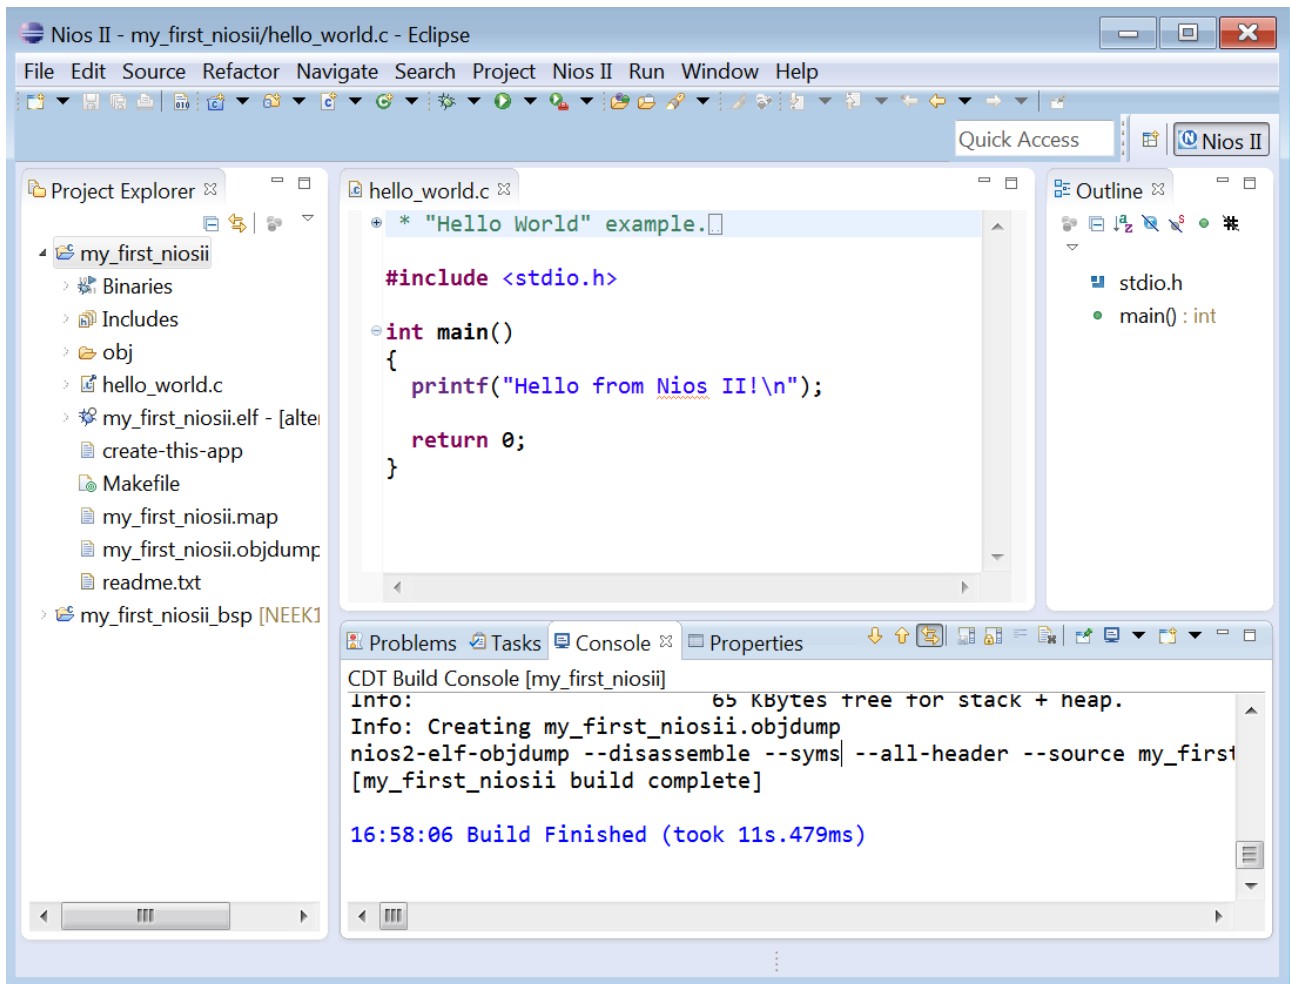

Figure 2-4 The build of my_first_niosii is complete
2. When the compilation is successful, a message [my_first_niosii build complete] will appear in the Console window, as shown in **Figure 2-4**. The compilation time depends on users' system.